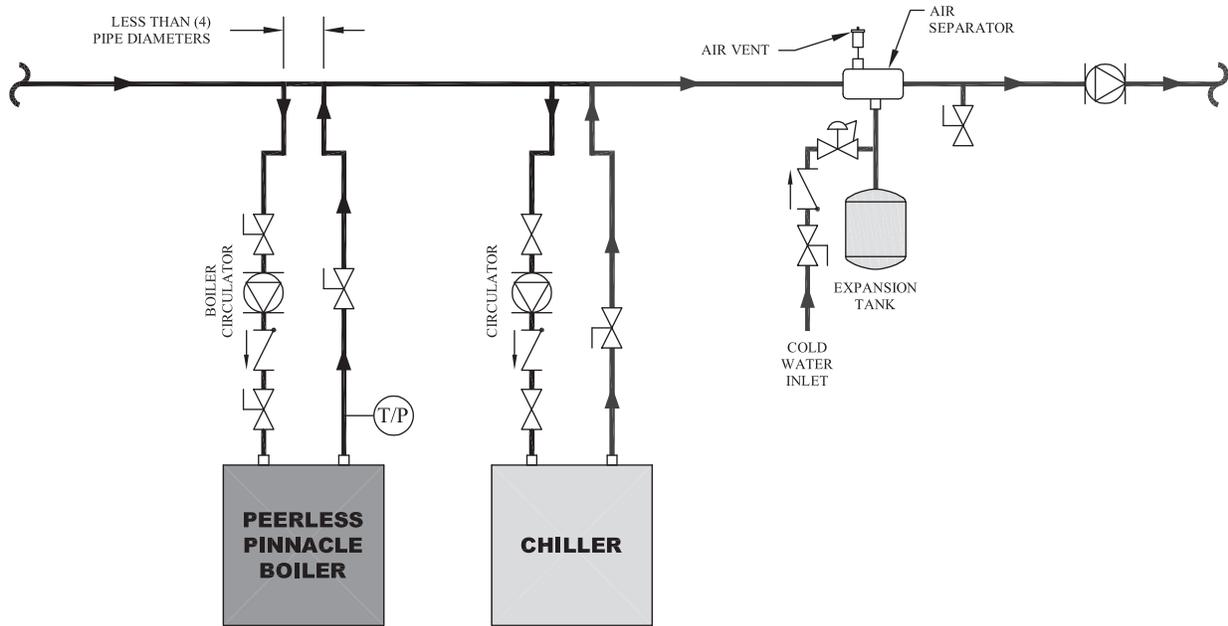

Figure 3.8: Boiler in conjunction with a Chilled Water System
- c. See Figure 3.8 for recommended system piping.